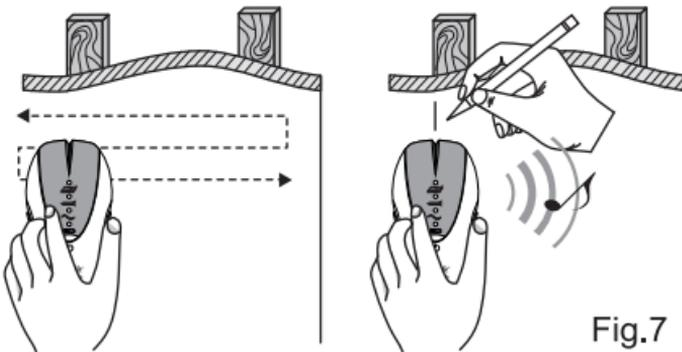

Fig.7
2. Use the detector slowly slide unit horizontally across the wall, right or left, when stud and wooden pattern is detected, the stud indicator LED will light up and buzzer will sound continuously. You have located the edge of the stud. Mark this spot. (fig.7)